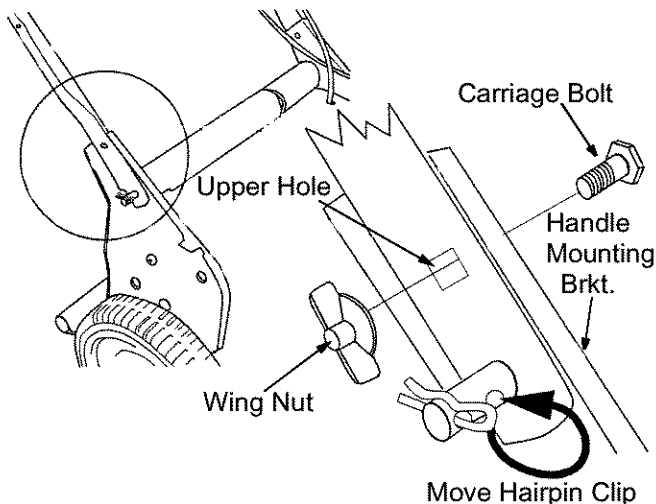

Figure 5
- Using a pair of pliers, insert the hairpin clip into the inner hole in the weld pin. Repeat on other side. See Figure 5.